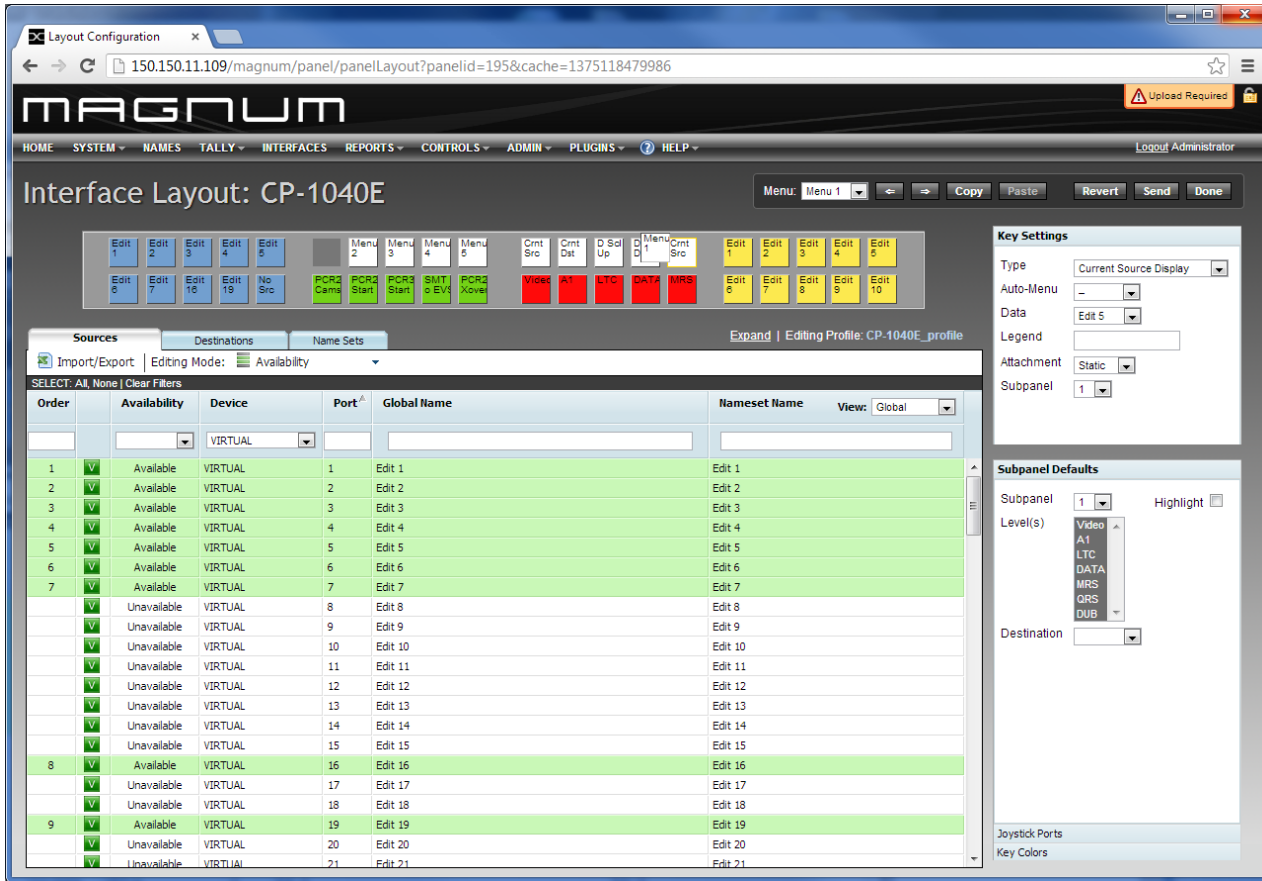

Figure 5-9: Moving Buttons using Drag and Drop
- The user can move the location of the buttons by selecting a button and holding the mouse down, then dragging the button to the desired location and releasing the mouse button to drop the button into place. Please refer to Figure 5-9.